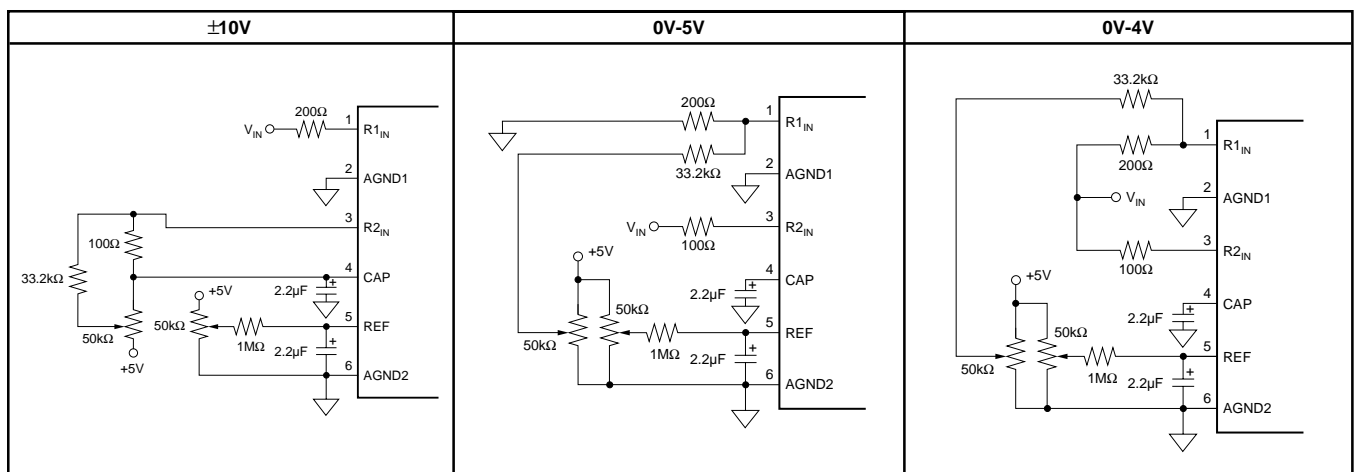
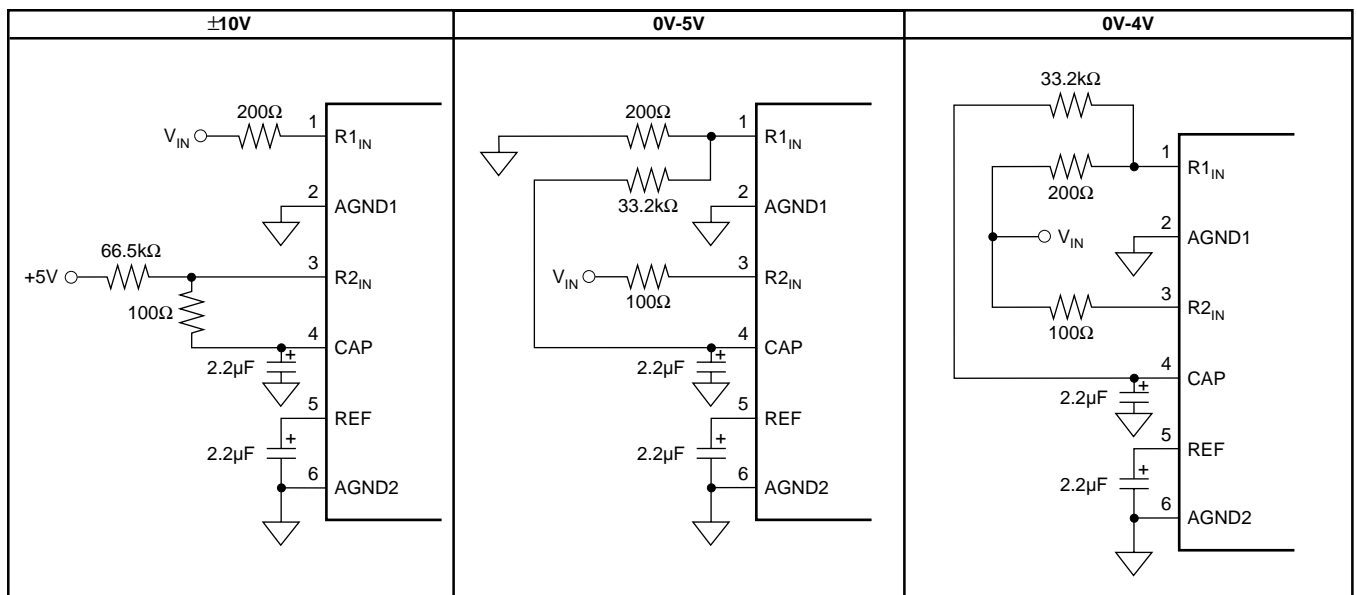
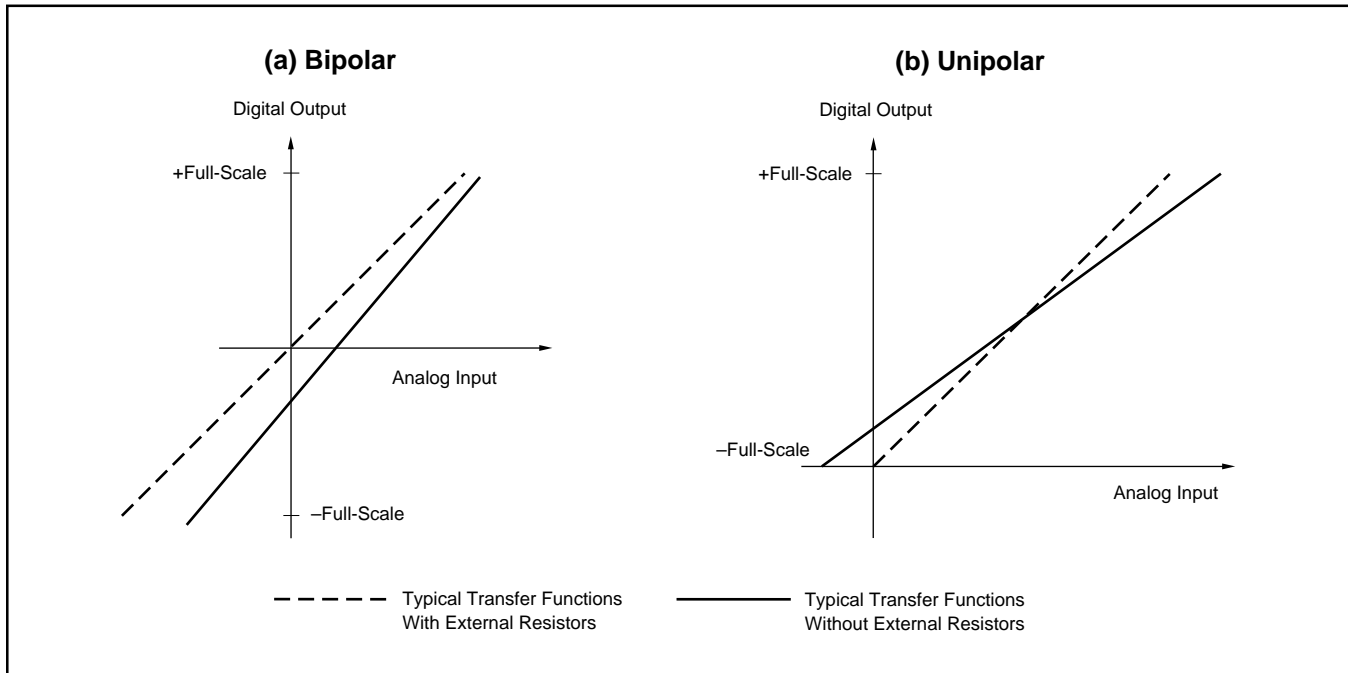

FIGURE 7a. Circuit Diagrams (With Hardware Trim).
FIGURE 7b. Circuit Diagrams (Without Hardware Trim).
FIGURE 8. Typical Transfer Functions With and Without External Resistors.
The ADS7807 offers three input ranges: standard  $\pm 10\text{V}$  and 0V-5V, and a 0V-4V range for complete, single-supply systems. See Figures 7a and 7b for the necessary circuit connections for implementing each input range and optional offset and gain adjust circuitry. Offset and full-scale error(1) specifications are tested with the fixed resistors, see Figure 7b. Adjustments for offset and gain are described in the **Calibration** section of this data sheet.
The input impedance, summarized in Table II, results from the combination of the internal resistor network (see the front page of this product data sheet) and the external resistors used for each input range (see Figure 8). The input resistor divider network provides inherent over-voltage protection to at least  $\pm 5.5\text{V}$  for  $R_{2\text{IN}}$  and  $\pm 12\text{V}$  for  $R_{1\text{IN}}$ .
To calibrate the offset and gain of the ADS7807 in hardware, install the resistors shown in Figure 7a. Table VI lists the hardware trim ranges relative to the input for each input range.
TABLE VI. Offset and Gain Adjust Ranges for Hardware Calibration (see Figure 7a).
To calibrate the offset and gain in software, no external resistors are required. However, to get the data sheet specifications for offset and gain, the resistors shown in Figure 7b are necessary. See the **No Calibration** section for more details on the external resistors. Refer to Table VIII for the range of offset and gain errors with and without the external resistors.
Figure 7b shows circuit connections. Note that the actual voltage dropped across the external resistors is at least two orders of magnitude lower than the voltage dropped across the internal resistor divider network. This should be considered when choosing the accuracy and drift specifications of the external resistors. In most applications, 1% metal-film resistors will be sufficient.
The external resistors (see Figure 7b) may not be necessary in some applications. These resistors provide compensation for an internal adjustment of the offset and gain which allows calibration with a single supply. Not using the external resistors will result in offset and gain errors in addition to those listed in the **Electrical Characteristics** section. Offset refers to the equivalent voltage of the digital output when converting with the input grounded. A positive gain error occurs when the equivalent output voltage of the digital output is larger than the analog input. Refer to Table VII for nominal ranges of gain and offset errors with and without the external resistors. Refer to Figure 8 for typical shifts in the transfer functions which occur when the external resistors are removed.